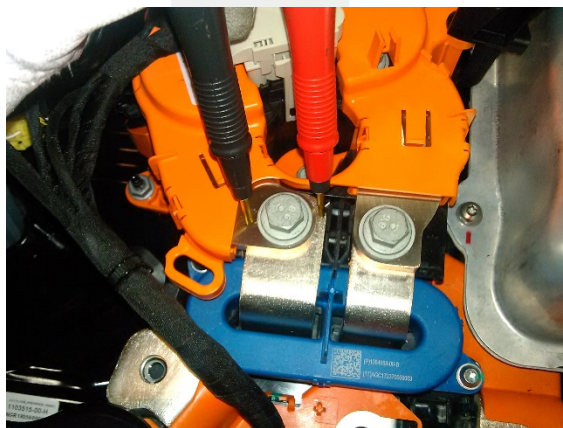

Figure 3
9. Use the Hioki resistance meter to measure the resistance at the HV joint between the HV battery fast charge contactor positive output (LH side) and the positive busbar (Figure 3).